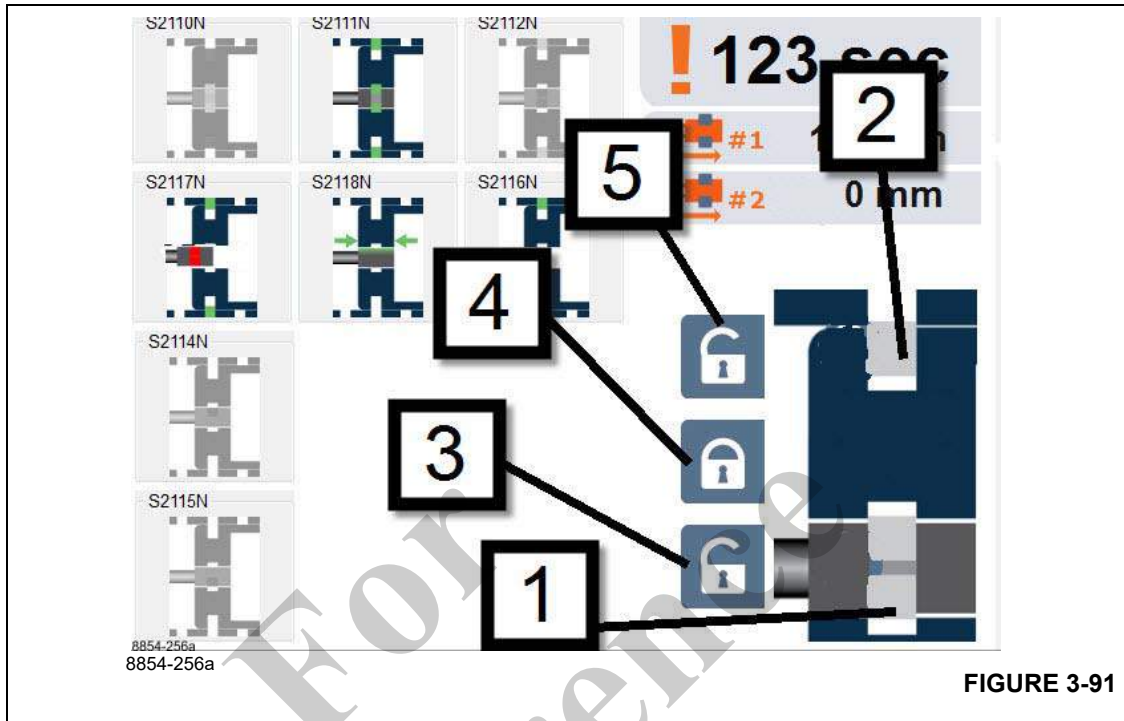
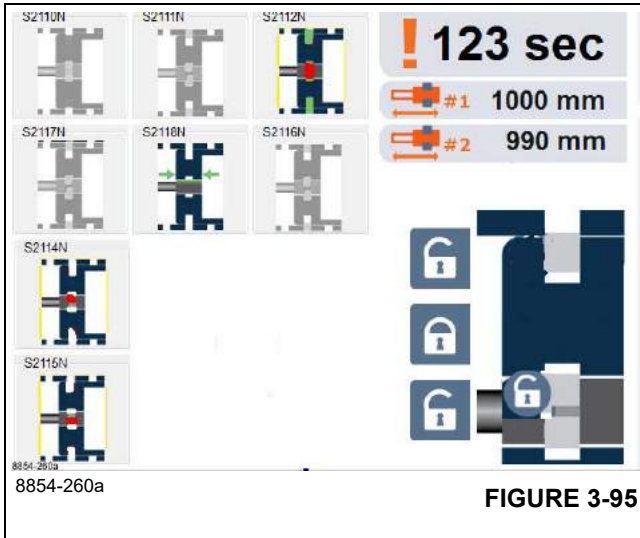

FIGURE 3-91
FIGURE 3-95
(Figure 3-91) has further explanation for the telescoping emergency program screen. Item 1 is the graphical representation of the tele cylinder pins that connect to a telescoping boom section. When these cylinder pins are considered retracted, an unlock symbol will appear in this location.
representation of the tele cylinder - refer to Item 1 in (Figure 3-91).
The telescoping boom section is unlocked (the unlock symbol is shown near the graphical representation of the section pins - refer to Item 2 in (Figure 3-91).
During telescoping motion you are not to select Lock. Under no circumstances, while the tele cylinder is moving, should you select and press the symbol (4), (Figure 3-91).
- Now select and confirm the symbol (1), (Figure 3-91).
- Select and confirm the symbol (3), (Figure 3-91).
The telescoping cylinder is unlocked. In the unlocked position, the screen should appear as indicated by (Figure 3-95). The telescoping cylinder is unlocked from any telescoping boom section (unlock symbol shown near the graphical representation of the tele cylinder - refer to Item 1 in (Figure 3-91).
The telescoping boom section is locked (the unlock symbol is not shown near the graphical representation of the section pins - refer to Item 2 in (Figure 3-91).
In the top row of the proximity switches (Figure 3-95), S2112N is ON, the others in the row are OFF. In the middle row of the proximity switches, S2118N is ON, but the others are ON or OFF depending on the location of the tele cylinder with respect to telescoping boom sections.
- The proximity switch indicators for S2117N, S2118N, and S2116N are used to align the tele cylinder to the hole in the boom section. S2118N is ON whenever the tele cylinder pins are in the “foot section” or the near end of the boom section weldment where the hole is located. S2116N goes ON when the tele cylinder has extended beyond the hole. S2117N goes ON when the tele cylinder is not extended enough to reach the hole. Therefore, one would operate the tele cylinder until S2118N is ON, and S2116N and S2117N are OFF. This is what is shown in (Figure 3-95).
- Select and confirm the symbol shown as Item 4 in (Figure 3-91).